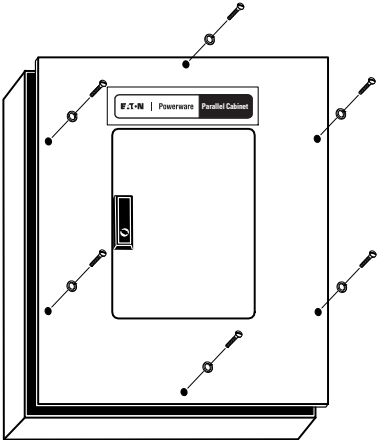

Figure 6. Parallel Tie Cabinet Front Cover
- 5. Remove the parallel tie cabinet front cover (see Figure 6).